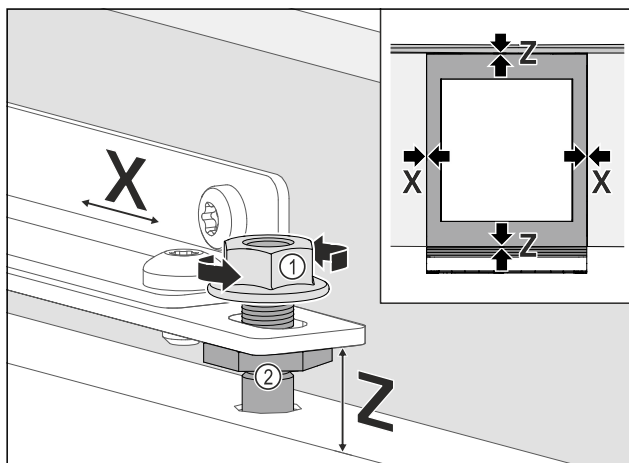

Fig. 77
- Align the unit door laterally: Loosen the lock nut Fig. 77 (1), move the unit door in **X** direction.
- Tighten the lock nuts Fig. 77 (1).
- Align the height **Z** and lateral inclination of the unit door: Set the adjustment bolt Fig. 77 (2).